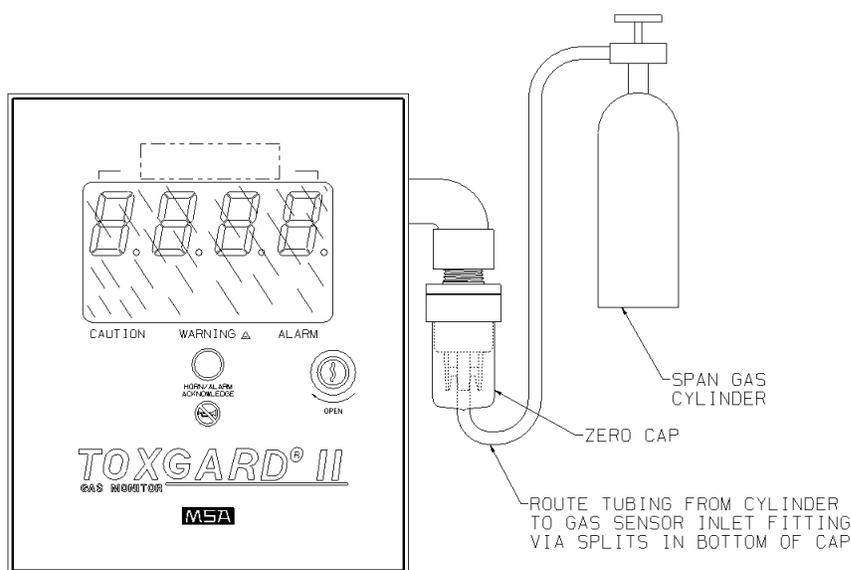

Fig. 31 Zero Gas Connection
- e) Connect the other end of the tubing over the SensorGard inlet (Fig. 31 "Zero Gas Connection").